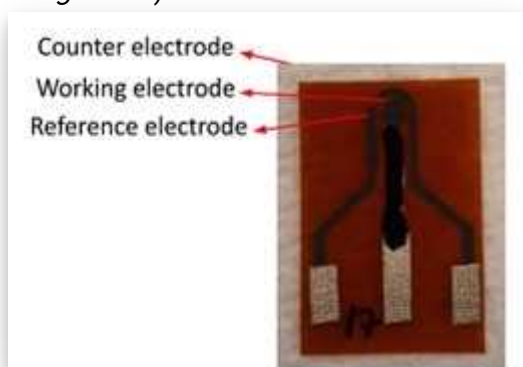

Figure 6B
b. Apply sufficient nail polish on the wires of the working electrode and counter electrode (shown in *figure 6B*).